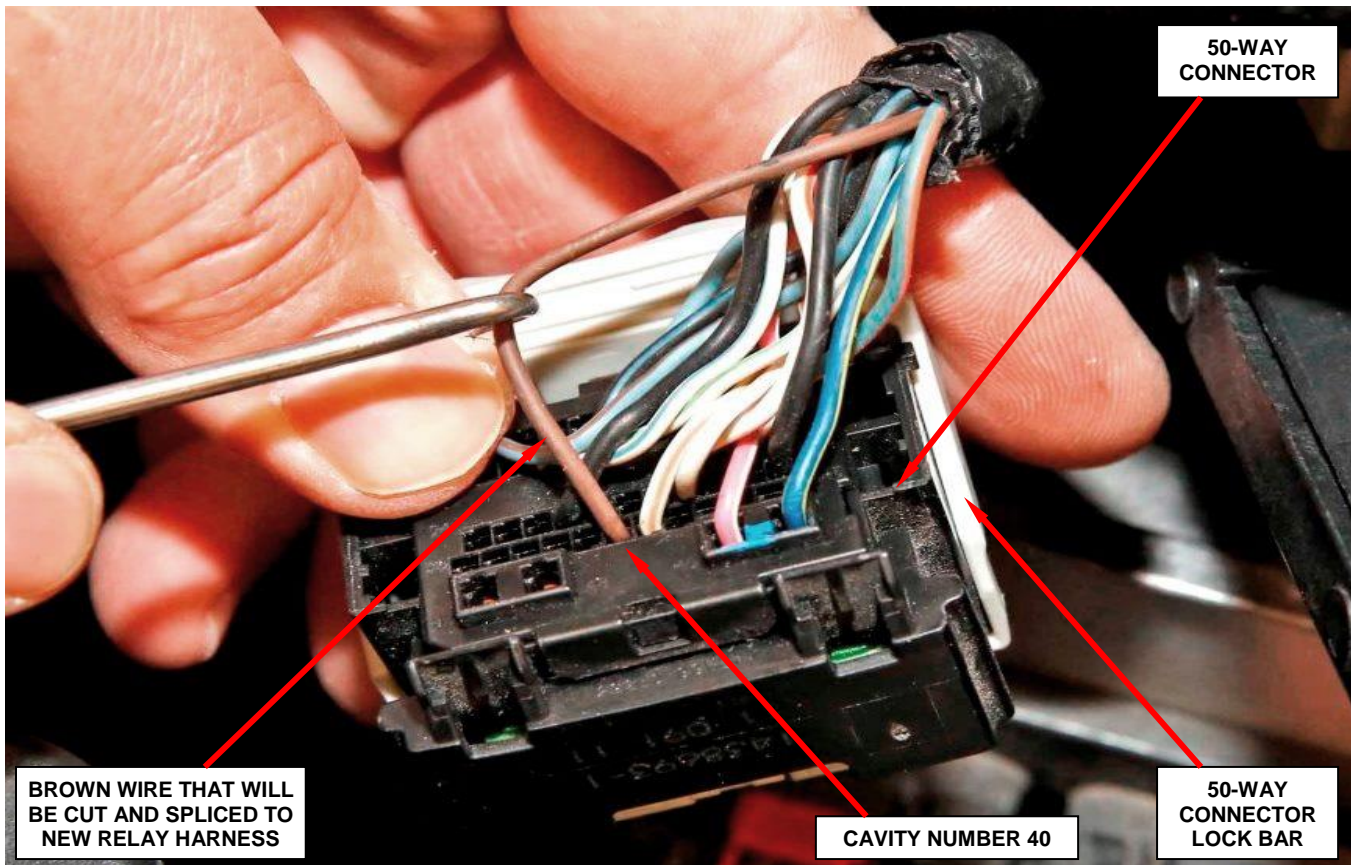

Figure 14 – Locate Brown Wire in 50-Way Connector
8. Locate the brown wire in cavity number 40 of the 50-way electrical connector (Figure 14).